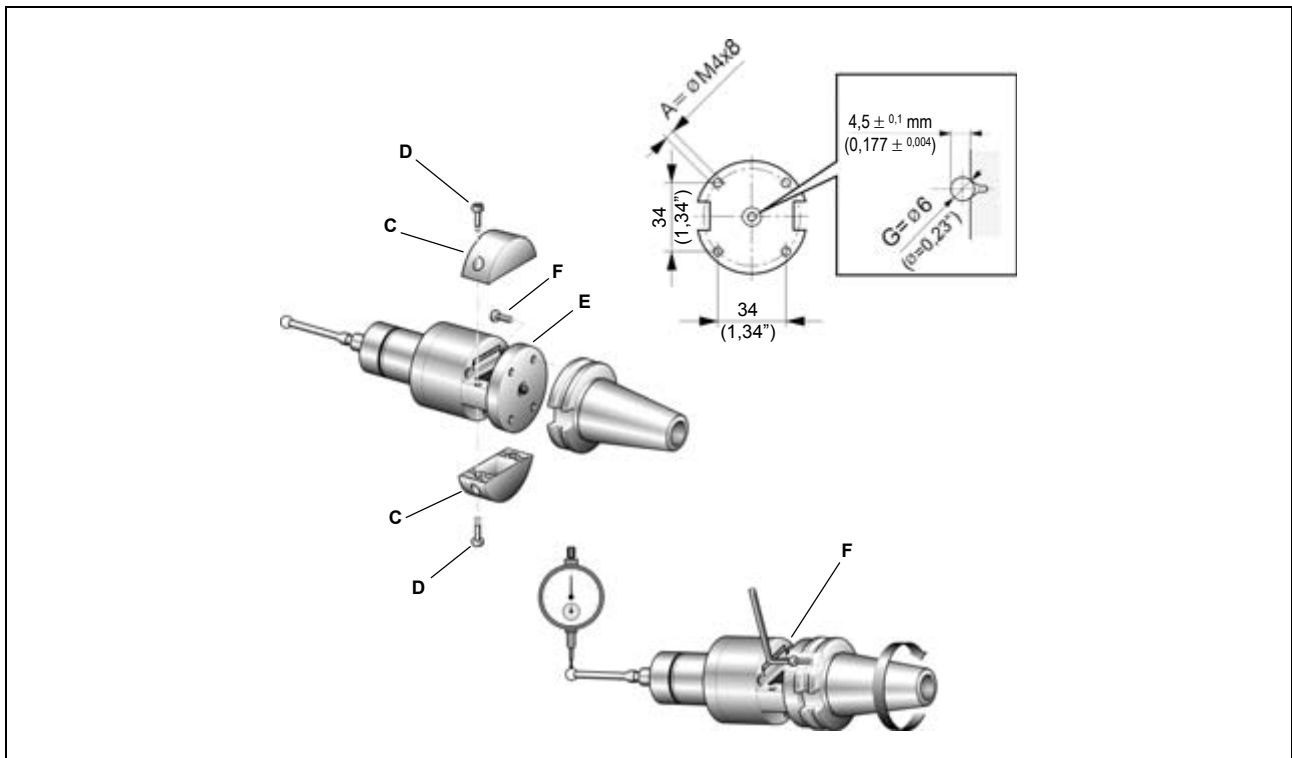

Figure 12-1
- Remove the transmitter battery covers (C) - screws (D) – to gain access to the four holes (E) on the flange. You can fix the transmitter with a standard flange in two different ways:
- Make four threaded holes M4x8 (A) and a central countersunk area (B) in the taper, as illustrated in Figure 12-1.
- Insert the $\varnothing 6$ mm ball (G) supplied between the transmitter and the taper.
- Secure the transmitter to the taper with the four screws (F).